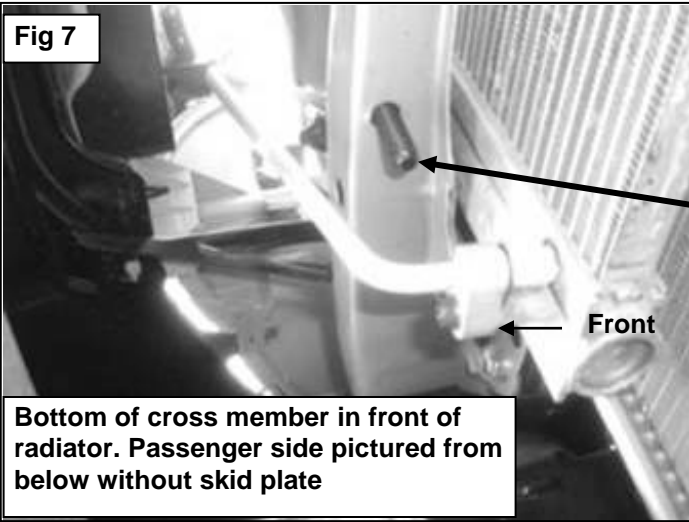

Fig 7
- Open the hood on the vehicle. Locate the factory hole on each side of the bottom of the radiator support cross member behind the grille insert, **(passenger/right side pictured-Fig 7)**. Select (1) 10mm Bolt Plate. Insert the Bolt Plate through the back of the cross member and down through the hole in the bottom of the cross member, **(Fig 7 - 10)**.
- Slide the driver/left side Top Bracket through the plastic grille opening and attach it to the previously inserted Bolt Plate using the included (1) 10mm Flat Washer and (1) 10mm Nylon Lock Nut, **(Fig 7)**. Do not tighten hardware. Repeat this Step for remaining Top Bracket installation.